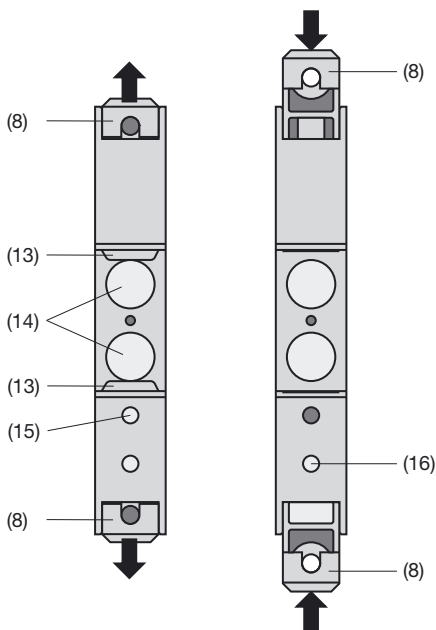

Fig. 7. Rear of device.
- (8) Screw hole brackets
- (13) Top-hat rail clips
- (14) Rubber buffers
- (15) Latch for pulling the screw hole brackets out
- (16) Latch for pushing the screw hole brackets in
The wire pressing the latch (15) in the base of the device (Fig. 7, left), pull out the amplifier securing brackets.
To return the brackets to their original positions, the latch (16) in the base of the devices has to be depressed before applying pressure to the securing brackets (8) (see Fig. 7, right).